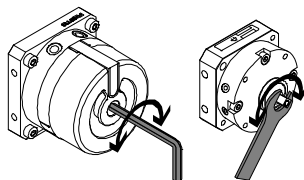

Fig. 17
- on the drive using the hex socket (square in HSW-10; see Fig. 17).